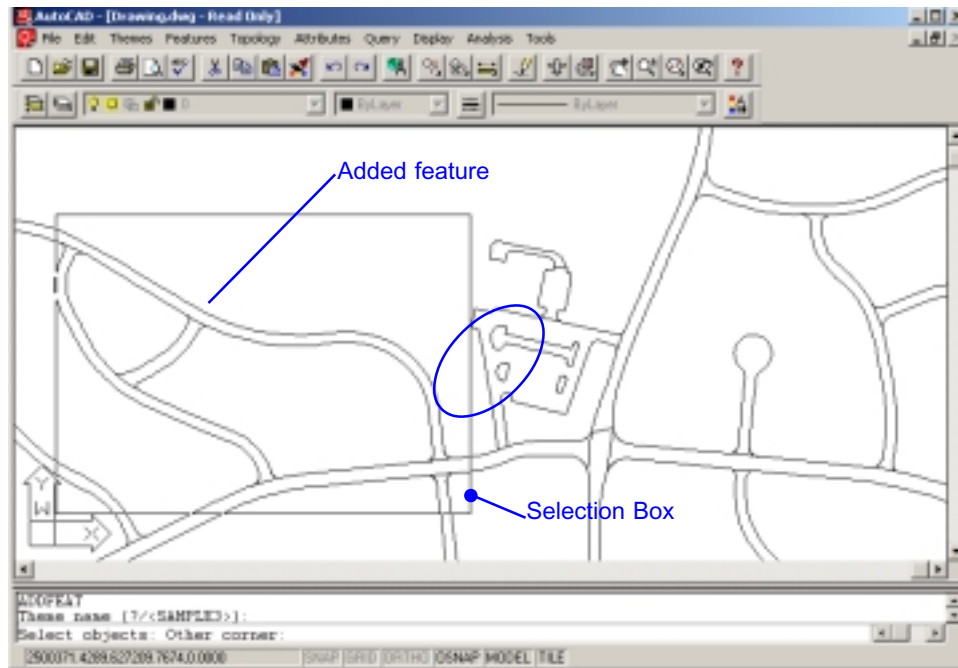

Figure 10
- (1) Display the coverage that you wish to modify in ArcCAD®.
- (2) Draw the new information in the coverage using standard AutoCAD® drawing techniques (figure 10). (ArcCAD® aligns the coverage boundaries when performing the analysis functions. If the new information is not located correctly or there are gaps in the new polygons the coverage could be corrupted.)
- (3) Using the coverage that was just edited create a new THEME by following the steps outlined in **2-b. Defining a THEME (this new theme will become the union theme)** When adding features to the new theme select the new polygons and any adjacent polygons that will be affected by the edit.
- (4) Create a new theme using THEME, DDTHEME (**this is the output theme**).